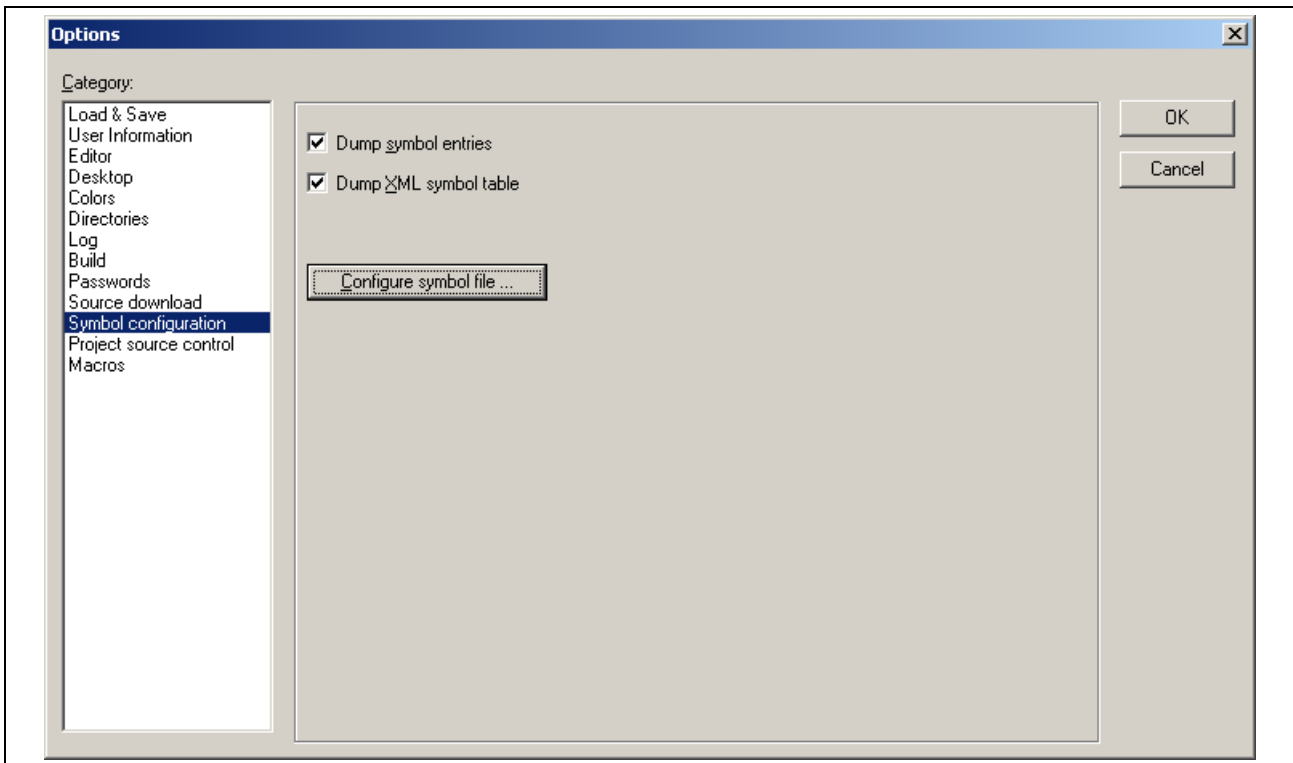

Fig. 3-47: IndraLogic Project-Options
- Fig. 3-47: IndraLogic Project-Options 3-44